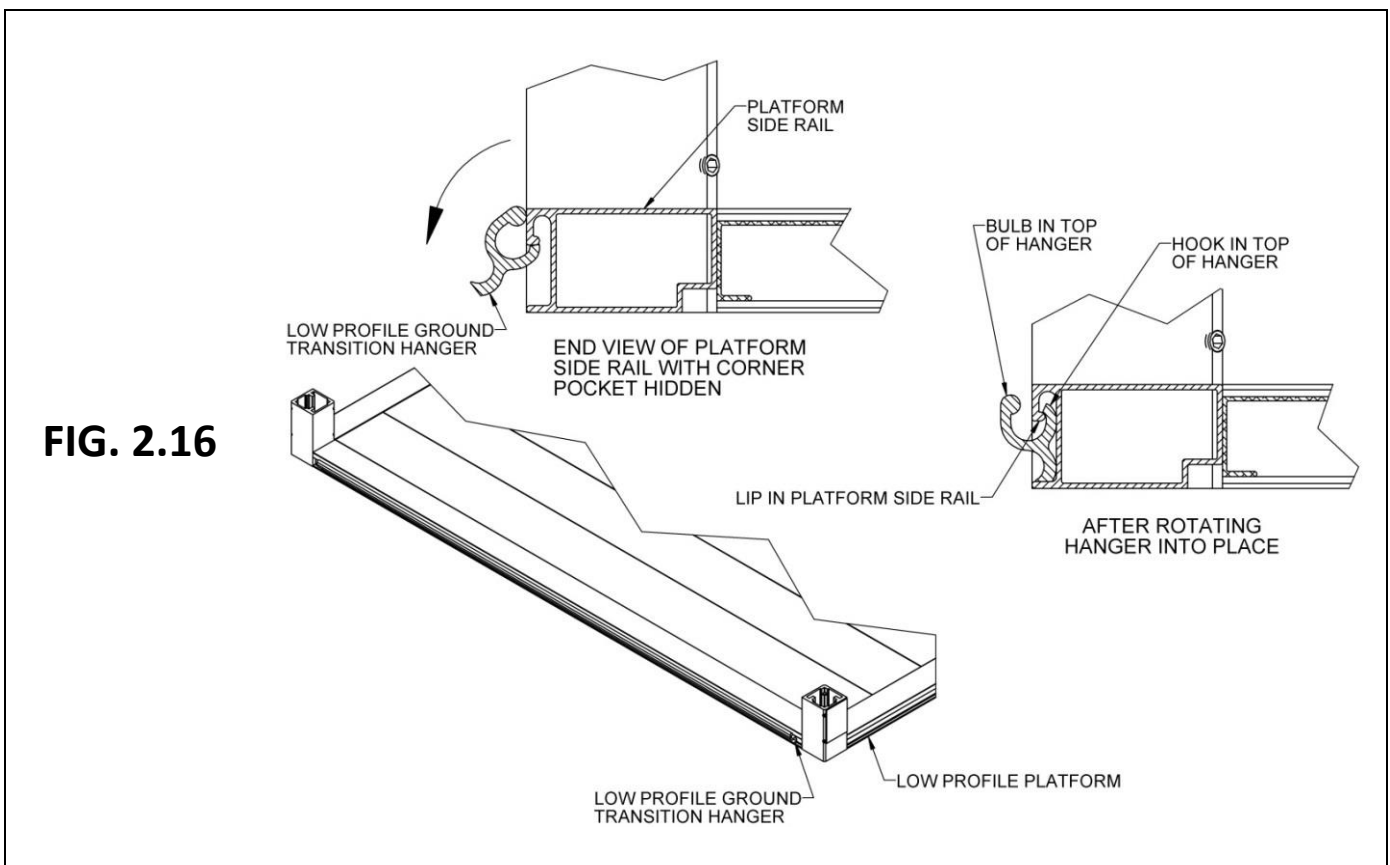

FIG. 2.16
- 2.6.7.4. Hold the low profile ground transition hanger as shown (FIG. 2.16), then rotate the hanger and continue pushing upward in such a manner that the hook at the top of the hanger goes behind and catches on the lip in the platform side rail and the hanger sits on the lower ledge of the side rail (FIG. 2.16).
- 2.6.7.5. Set the low profile platform on its side in such a manner that the low profile ground transition hanger extends up from the ground and the low profile ground transition or bridge transition can be held at approximately 90 degrees to the platform (FIG. 2.16).